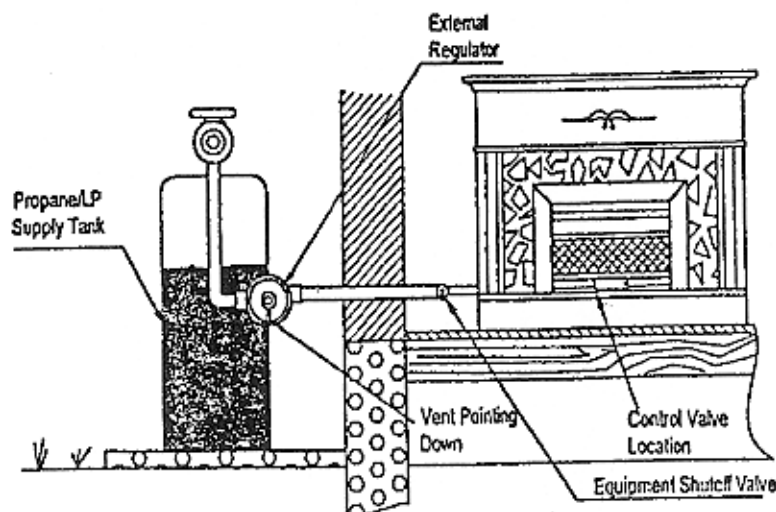

Figure 9 - Checking Gas Joints
4. Check all joints from equipment shutoff valve to control valve (Figure 9). Apply mixture of liquid soap and water to gas joints. Bubbles forming show a leak.
3. Check all joints from gas meter to equipment shutoff valve (see Figure 9). Apply mixture of liquid soap and water to gas joints. Bubbles forming show a leak.